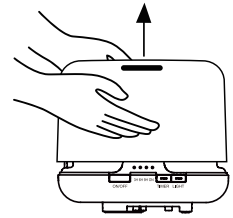
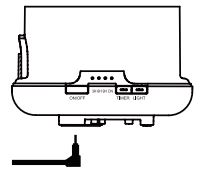

Fig 1
Fig 2
1. Place the device on a level, stable and dry surface where it will be used (nightstand) and remove the upper cover and the inside water cover. (Fig 1). Connect the AC adaptor to the base. (Fig 2)